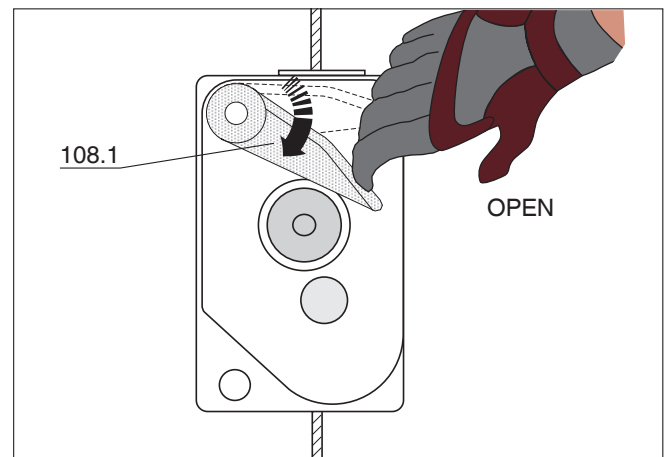

Fig. D.7.2 – Open the BLOCSTOP™ BSO
1. Lift the equipment (43) until you have eliminated the load on the safety wire rope.
2. Return the lever (108.1) to the «OPEN» position (fig. D.7.2).